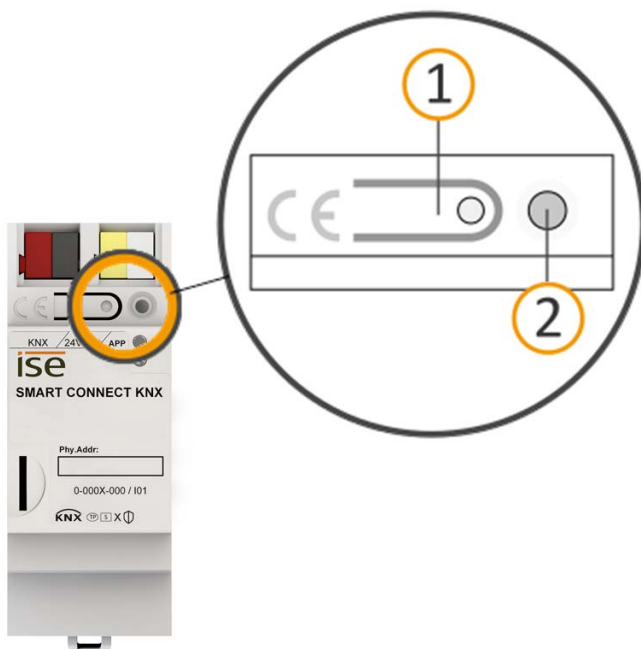

Figure 28: Programming
1. Briefly press the programming button (see figure 28, item 1). Alternatively, you can also press the programming button on the device website. The programming LED (see figure 28, item 2) lights up red.
1. Press the programming button (see figure 28, item 1) and keep it pressed while you attach the power connection terminal.